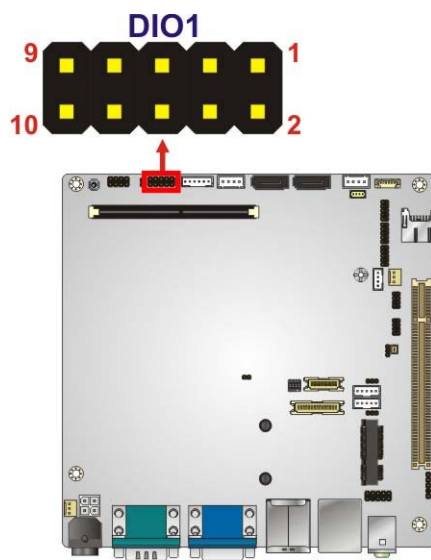

Figure 3-3: Digital I/O Connector Location
- CN Location:** See **Figure 3-3**